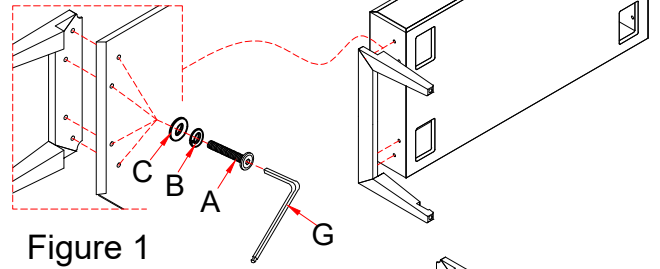

Figure 1
1. Attach leg frame on the table by using Flat washer (C), Lock Washer (B), Bolt (A) with Allen Key (G). (See Figure 1).